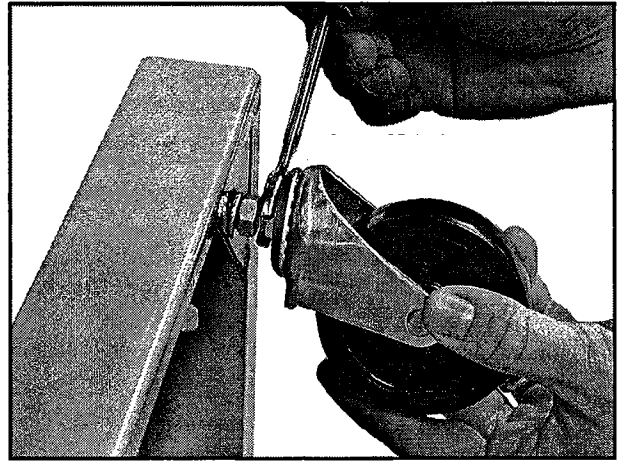

FIGURE 3
1. Turn the base on edge and attach the four caster assemblies to the threaded holes in the corners of the base. The loose nut and washer on the caster should be removed and reversed (washer on top of nut) as shown in Figure 3. Place a wrench on the bottom nut and turn clockwise to screw the caster assembly firmly into the base.